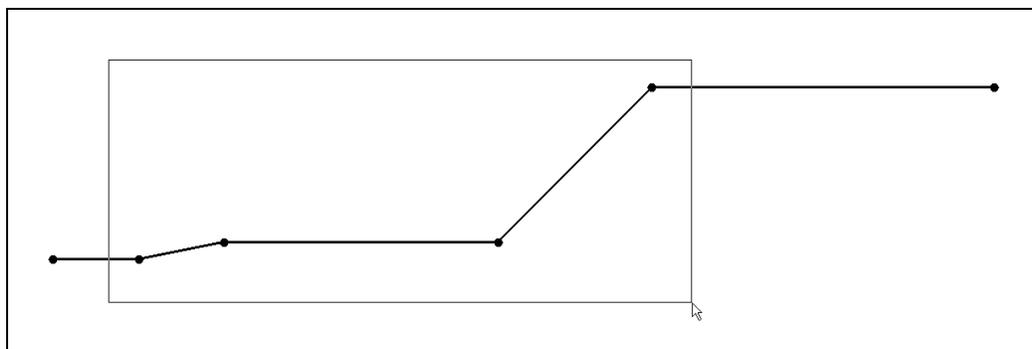

Figure 6. Selecting the Interior Nodes by Dragging a Box.
- Drag a box around the four middle nodes, as shown in Figure 6 below.